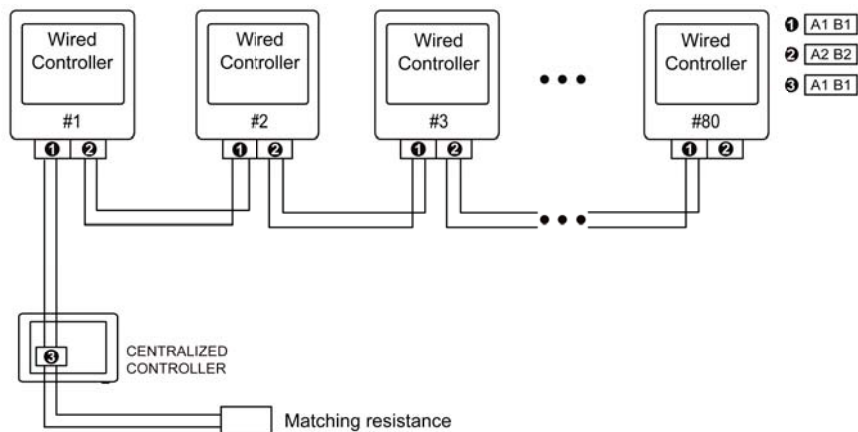

Fig.3.10 Centralized controller connected with wired controller of free match
- (1) The connection sketch map of control system is shown by the fig. 3.10. The complete control system is composed of long-distance central controller, wired controller and telecommunication cable. The wired controller matched with long-distance central controller can support 80 addresses of communication node at the most.